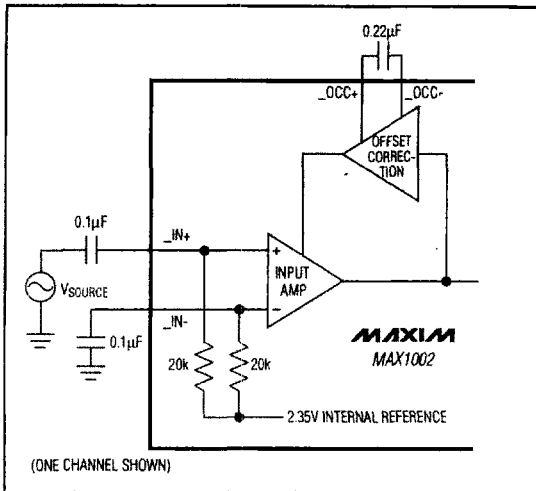

Figure 2. Single-Ended AC-Coupled Input
**Note 5:** Offset-correction compensation enabled, 0.22μF at Q and I compensation inputs (Figures 2, 3).
Figures 2 and 3 show single-ended and differential AC-coupled input circuits. Each of the amplifier inputs is internally biased to a 2.35V reference through a 20kΩ resistor, eliminating external DC bias circuits. A series 0.1μF capacitor is required at each amplifier input for AC-coupled signals.
compensation capacitor is required to set the dominant pole of the offset-correction amplifier's frequency response (Figures 2 and 3). The compensation capacitor determines the low-frequency corner of the analog input response according to the following formula: